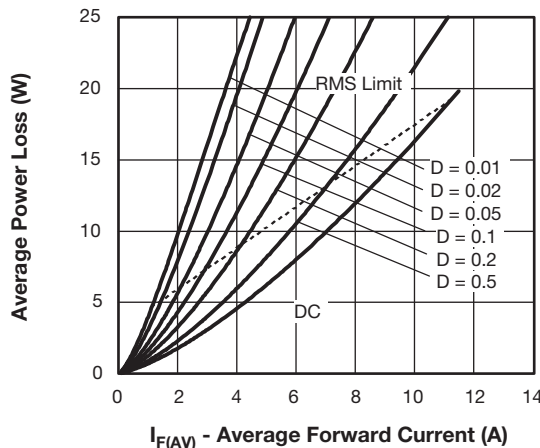

Fig. 6 - Forward Power Loss Characteristics
- (1) Formula used:  $T_C = T_J - (P_d + P_{d_{REV}}) \times R_{thJC}$ ;
- $P_d$  = forward power loss =  $I_{F(AV)} \times V_{FM}$  at  $(I_{F(AV)}/D)$  (see fig. 6);